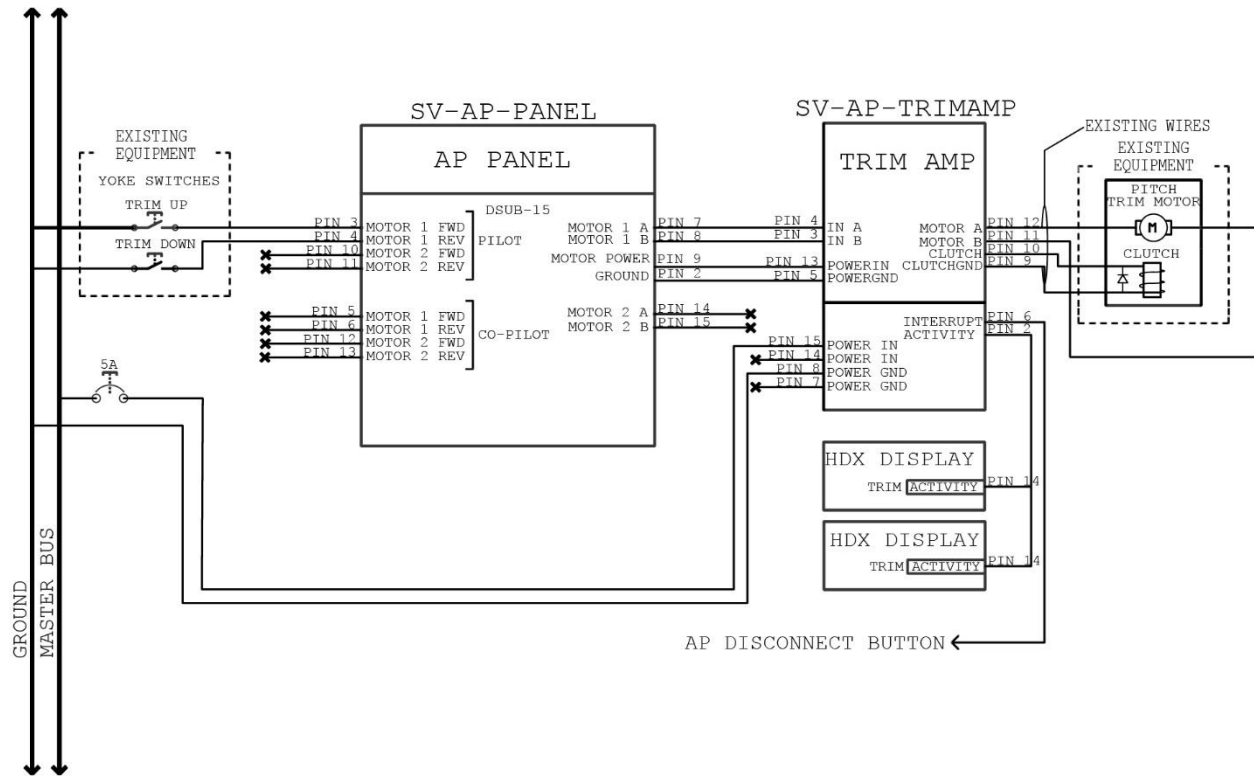

Figure 131: SV-AP-TRIMAMP Electrical Installation
3. Route SV-AP-TRIMAMP harness as follows (also see Figure 131):
5. Use insulated connectors to connect SV-AP-TRIMAMP harness as follows (also see Figure 131):